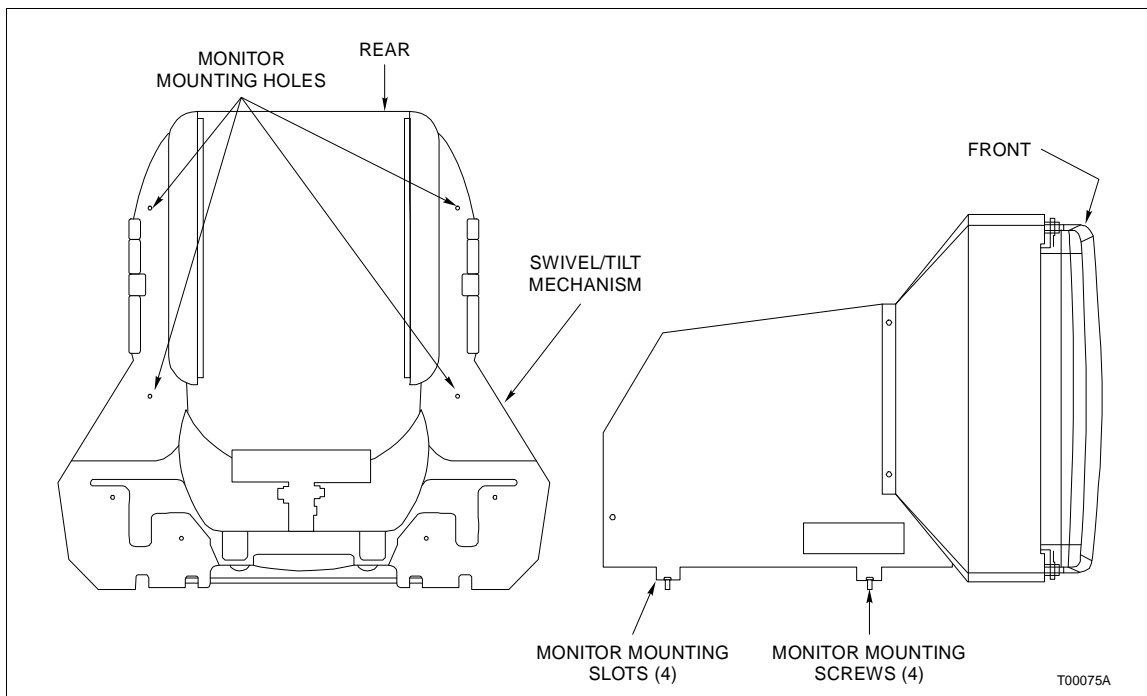

Figure PR64-3. Monitor Replacement
- 6. Use the long Phillips head screwdriver to remove the four monitor mounting screws that secure the monitor to the swivel/tilt mechanism (Fig. PR64-3).